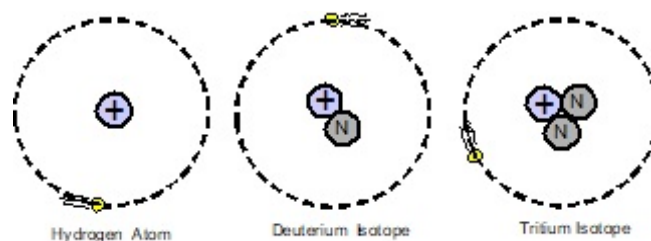

**Figure 224.6** An atom of helium has an atomic number of two and an atomic mass of four. It has two electrons, two protons, and two neutrons.
**Nuclear Terminology:** *Atoms* are made up of a nucleus consisting of particles called protons and neutrons, and electrons moving in spherical shells about the nucleus. The protons and neutrons cling together and form the nucleus of the atom. The protons have a positive charge, and electrons have a negative charge. Neutrons have no charge. The electrical charge of an atom is zero because there is an equal number of protons and electrons. A material consisting all of the same atom is called an *element*. There are only 92 elements that occur naturally. Other elements with higher atomic numbers than uranium are produced artificially. Some such as neptunium and plutonium do occur naturally in very small quantities in some mineral deposits. *Atomic number* is the number of protons in the nucleus. Each different element has a different atomic number. There should be an equal number of electrons circulating in spherical shells about the nucleus. This is illustrated in Figure 224.6 which depicts an atom of helium.
*Atomic mass* of an atom is approximately the number of protons and neutrons in the nucleus of the atom. An electron has an electrical charge as strong as that of a proton, but its mass is only a small fraction of that of the proton. All of the electrons forming an atom only make up a small fraction of the total mass of the atom. Figure 224.6 depicts an atom of helium with two electrons, two protons, and two neutrons. There are four particles in the nucleus, therefore, the atomic mass of helium is approximately four atomic units.